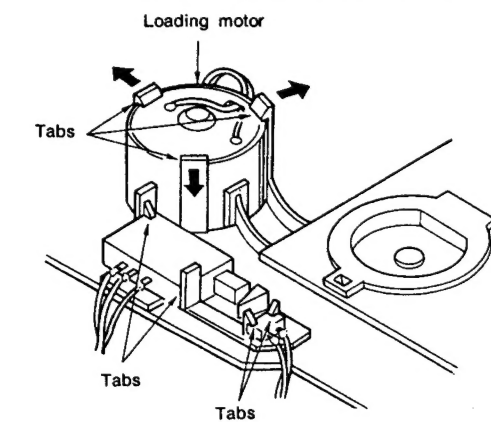

Fig. 5
## (5) Removal of the loading motor and switches (Fig. 5)